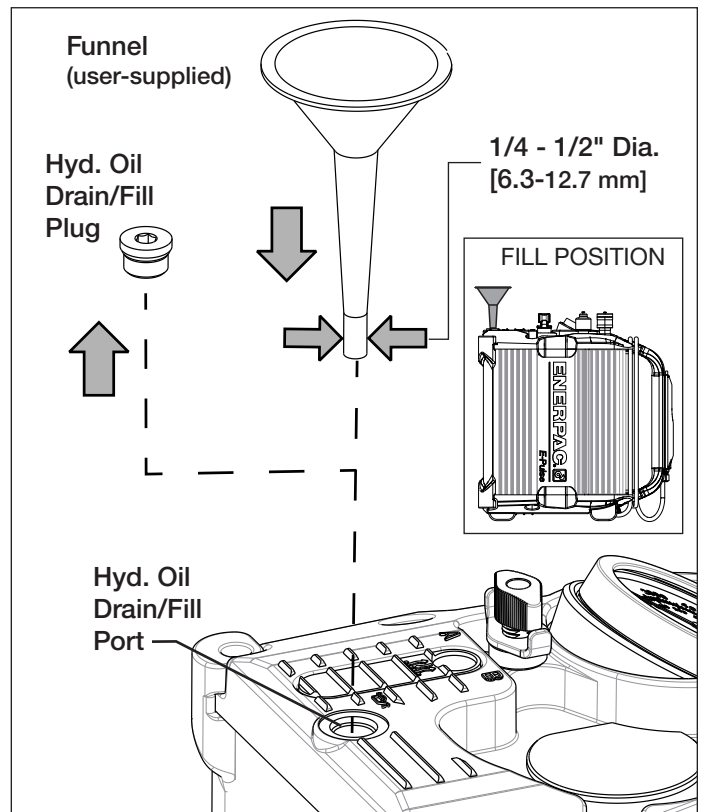

Figure 9, Adding Oil
6. Place the pump on a stable and level work surface, with the front cover facing UP, and the rear cover supported by the work surface. See Figure 9.
- Always use a funnel when adding oil. To avoid spillage and to ensure that pump internal venting functions properly during filling, funnel neck outer diameter must not exceed 1/2 inch [12 mm] or be less than 1/4" [6.3 mm]. Refer to Figure 9.